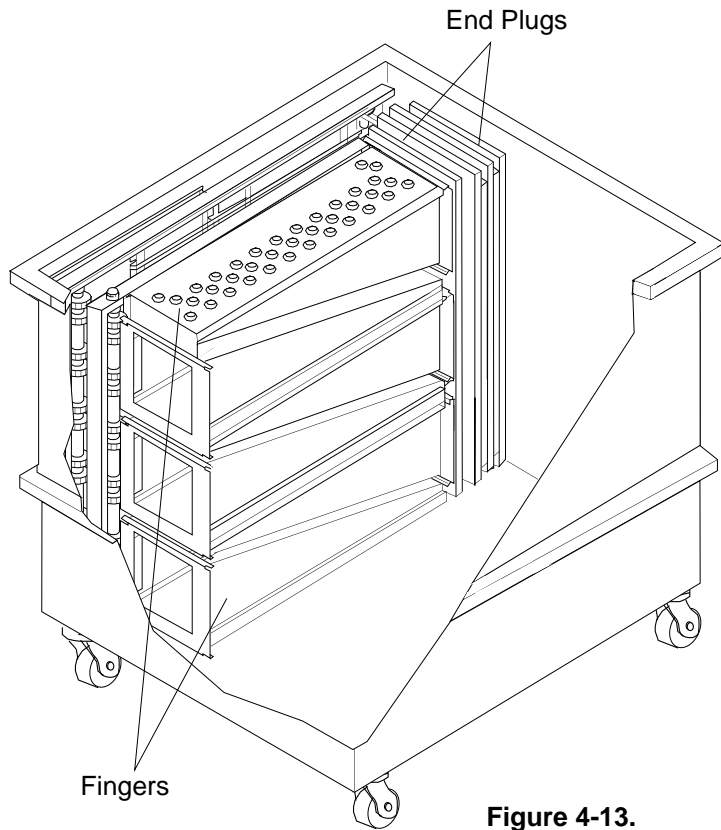

Figure 4-13.
b. Place the end plugs in the soak bin as shown in Figure 4-13.
Then place the fingers in the soak bin by placing the slanted sides of the fingers together to conserve space as shown in Figure 4-13.